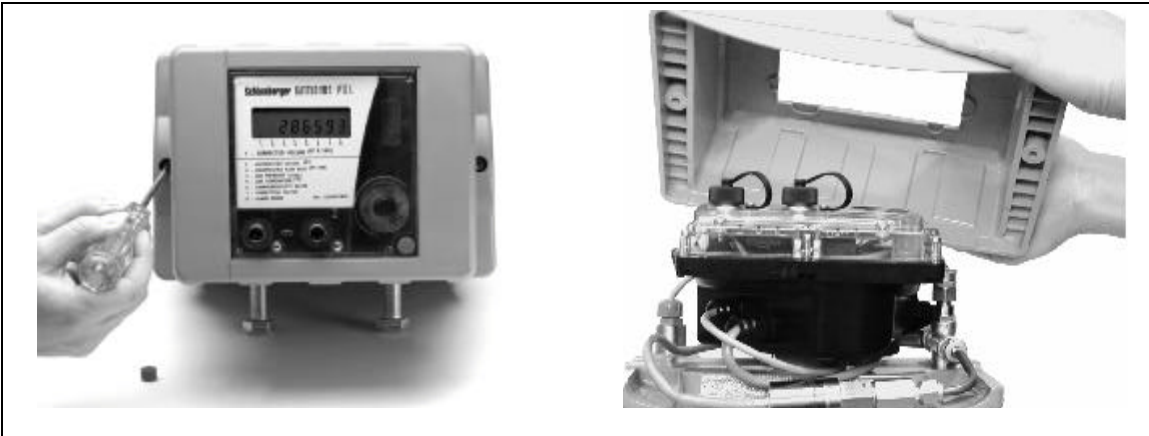

Figure 3.7 Removing the External Cover
- 1 Remove the external cover by loosening and removing two external cover mounting screws and lifting the external cover away from the measurement unit (see Figure 3.7).